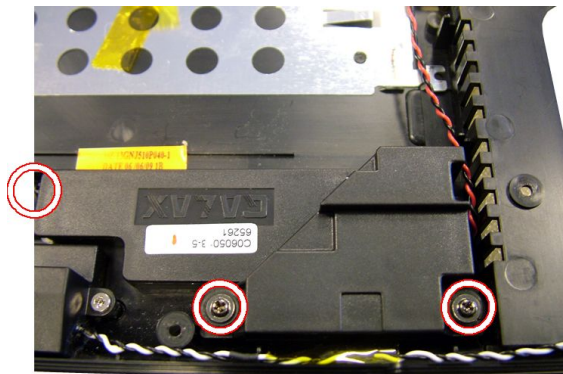

Fig. 25 Location of subwoofer screws.
2. Remove the 3 screws securing the subwoofer (one of the screws is not visible in Fig. 25).